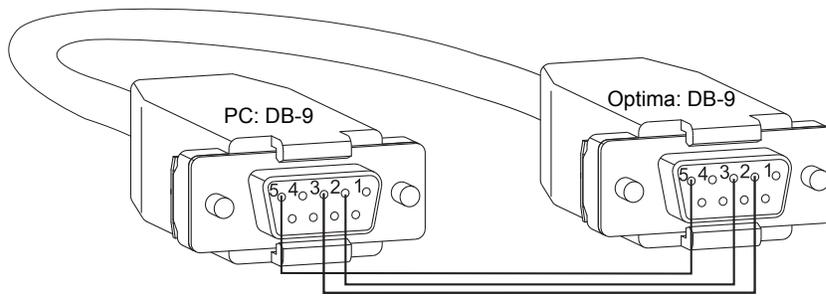

FIG. 104 RS-232 pinout
1. Attach a null modem serial cable without hardware flow control to the Control port (DB-9) on the Optima. Use a serial cable that matches the pin diagram in FIG. 104 for RS-232. The Control port uses pins 2, 3, and 5 only.